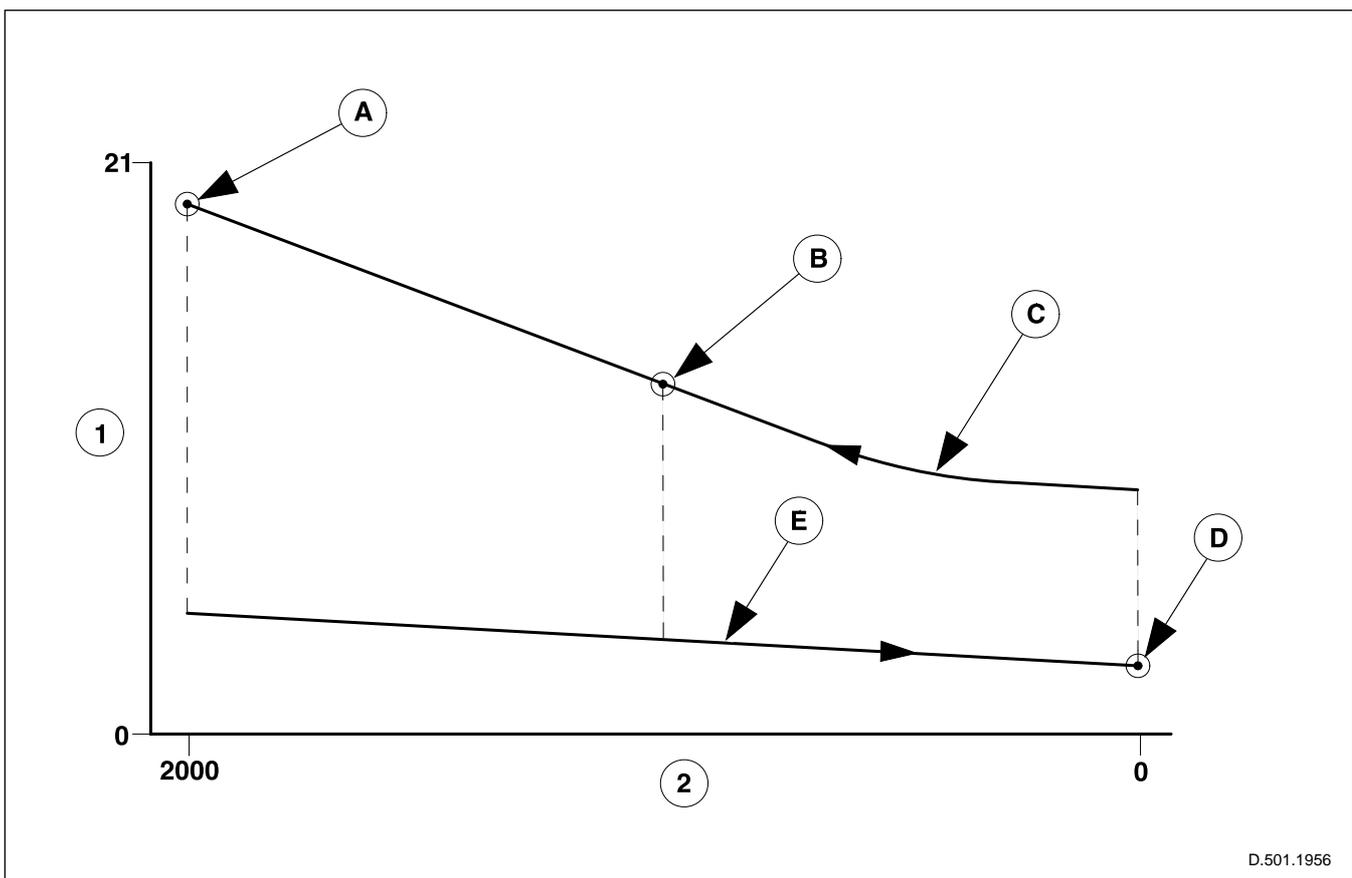

Fig. 37 Force/webbing relationship - standard retraction mode
Standard retraction applies when the safety belt tongue is not engaged with the safety belt buckle. Fig. 37 shows the relationship between force required to withdraw the webbing and the distance the webbing has moved. The top curve (C) represents the extraction force on the webbing; the bottom curve (E) represents the retraction force on the webbing.
After the buckle tongue is inserted into the buckle (A), the comfort solenoid, switches operation to the comfort spring. During the period that the buckle remains engaged, the comfort system is in operation, reducing the force exerted on the occupant by the safety belt webbing, in accordance with the extraction curve (B) and the retraction curve (D). When the tongue is released from the buckle (C), the comfort solenoid disengages the comfort spring, re-engages the retraction spring and causes the force on the webbing to immediately revert to the standard retraction mode (fig. 37).